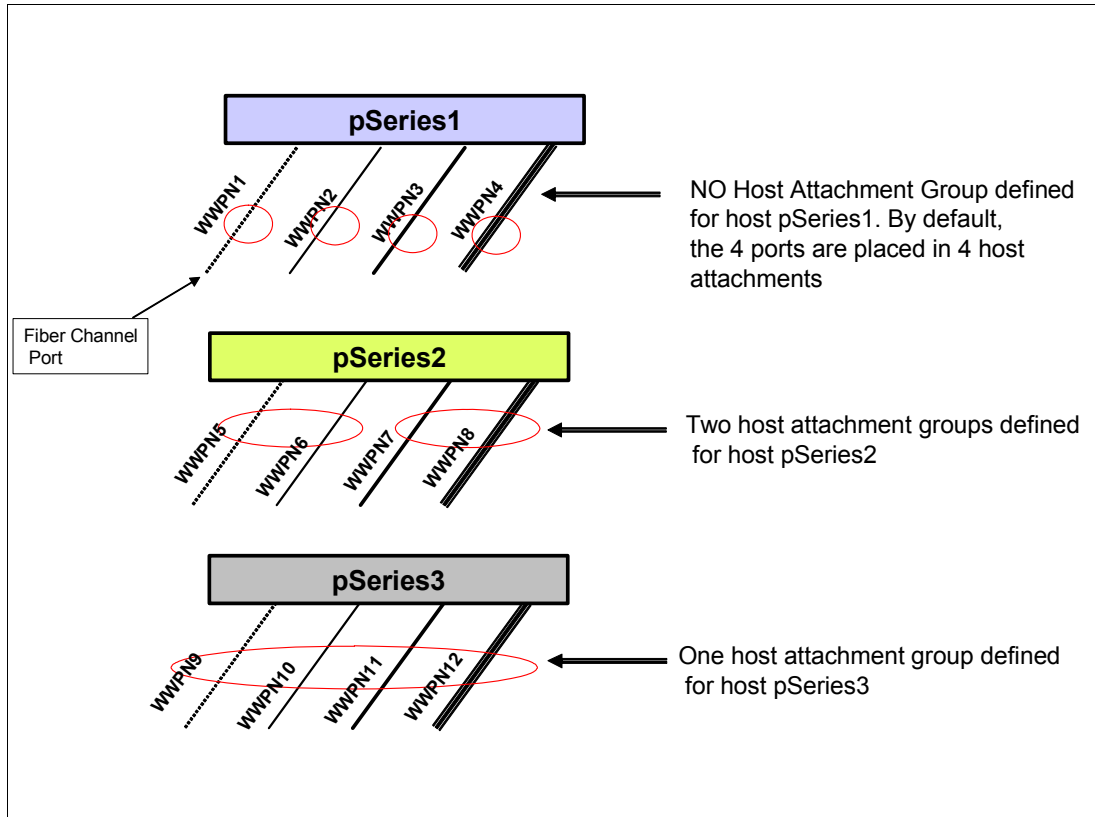

Figure 9-1 Diagram of hosts and host attachment groups
- ▶ Multiple Fibre Channel ports' WWPNs on the same host system can be specified in one or more host attachments, in one host definition called *host system* in the GUI. A host attachment does not always mean a single port. For example, refer to Figure 9-1 on page 153.
- ▶ In Figure 9-1 we show three pSeries hosts with four host ports each. The first host, pSeries1, has no specific attachment groupings, so each port could be defined as an attachment. Server ports can be grouped in attachments for convenience. For example, pSeries2 shows two host attachments, with two ports in each attachment. Server pSeries3 shows one host attachment with four ports grouped in the one attachment.